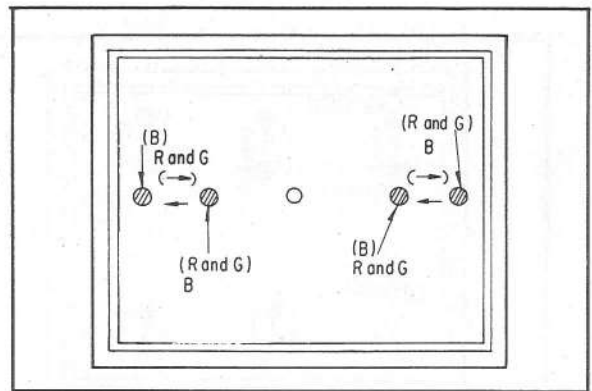
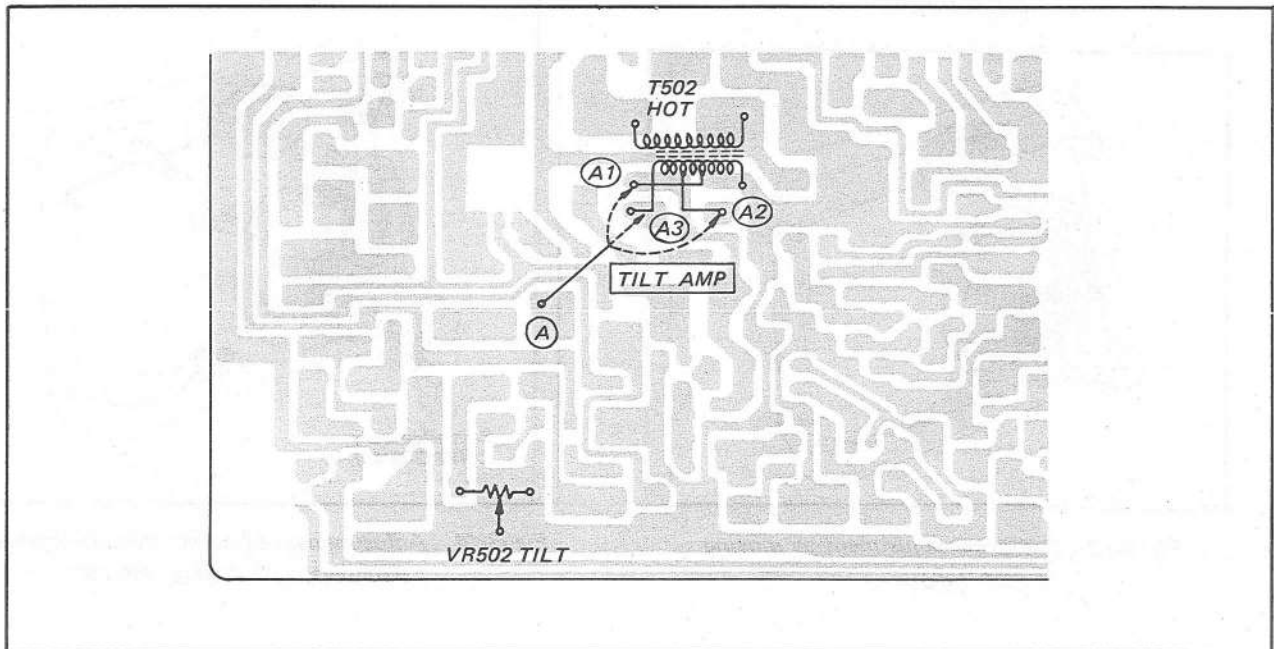

Fig. 3-9. Left and right convergence adjustment
Fig. 3-8. Parts location and adjustment portion on VH board
1. Adjust VR502 (TILT, See Fig. 3-8) for best convergence at both sides as shown in Fig. 3-9. If side misconvergence persists, proceed to Step 2.
2. Try connecting (A) to (A1) , (A2) or (A3) on the printed pattern (one by one) of VH board (TILT
AMP) as shown in Fig. 3-8. Make connection which gives best result permanent.